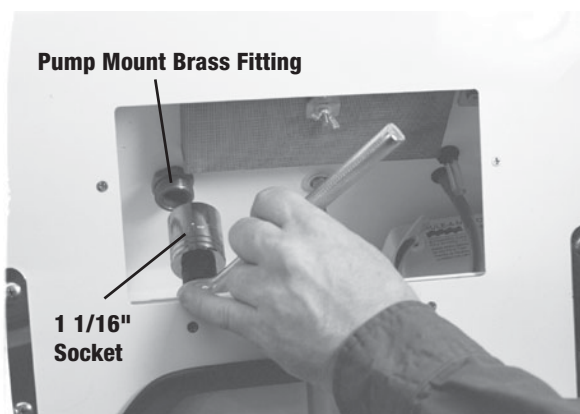

Figure 6
4. Using 1 1/16" socket supplied with machine, remove the pump mount brass fitting (fig. 6).